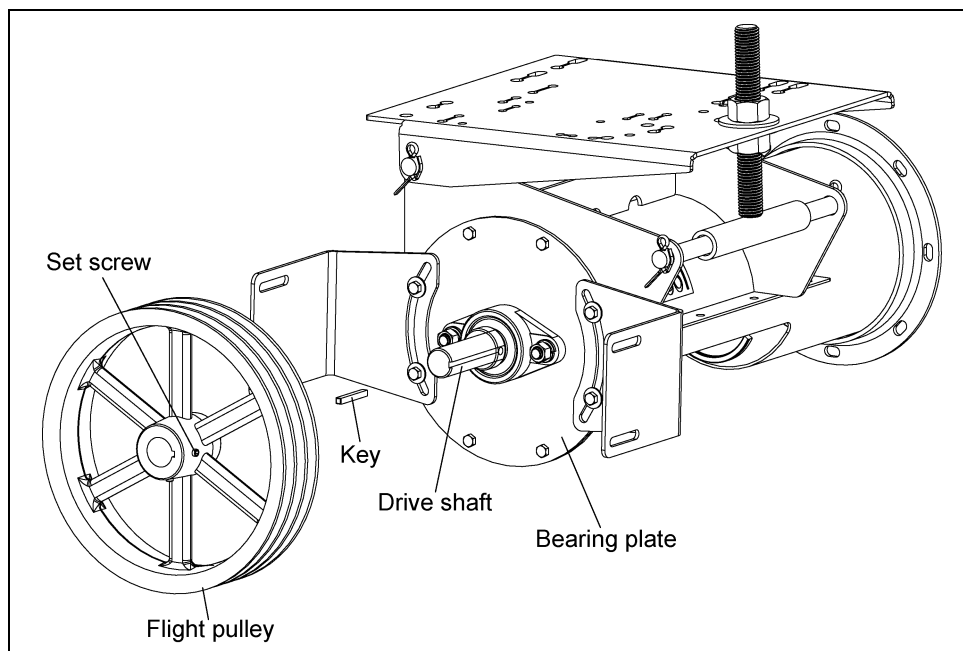

Figure 4K
3. Once the pulley is appropriately positioned, tighten the set screw with a hex head wrench to secure it to the drive shaft. (See Figure 4K.)